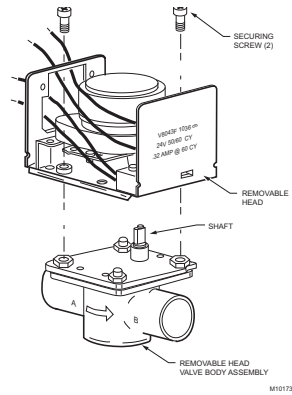

Fig. 4. Install new powerhead.
6. Install new powerhead (Fig. 4).
- Remove the 2 screws securing the powerhead to the valve body. (Fig. 4.)
4. Install the new powerhead (See Fig. 4).